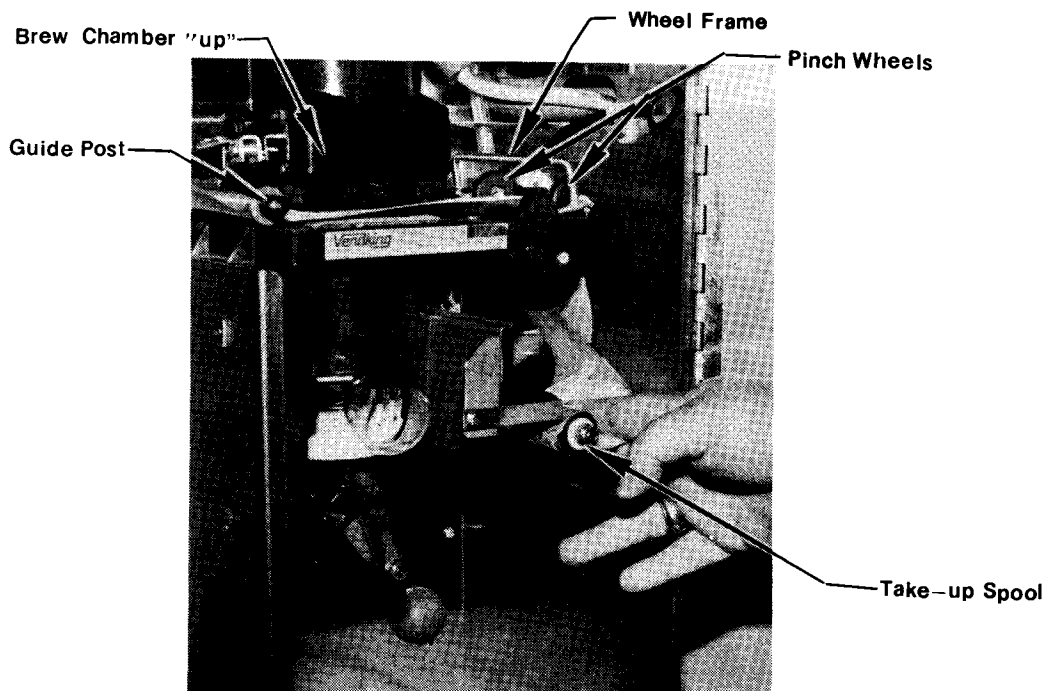

Fig.3
- Advance filter paper by: (FIGURE 3)